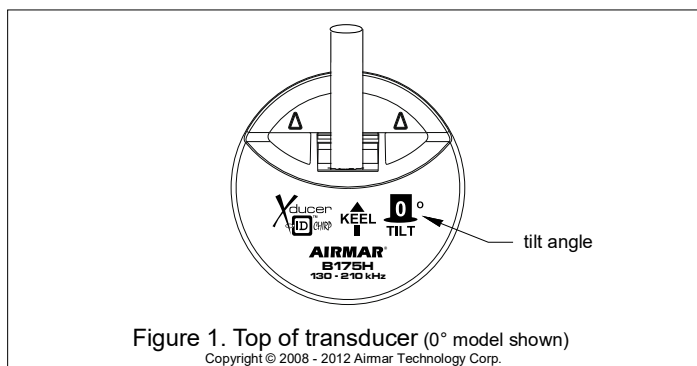
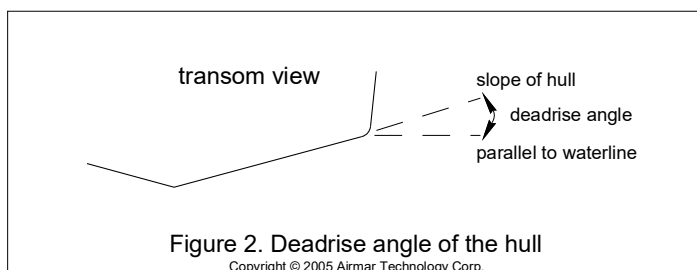

Figure 1. Top of transducer (0° model shown)
Figure 2. Deadrise angle of the hull
Be sure your transducer model matches the deadrise angle of your hull at the selected mounting location. The tilt angle is printed on the top of the transducer (Figure 1). To measure the deadrise angle of your hull at the selected mounting location, use an angle finder or a digital level (Figure 2).
**12° and 20° models**—From inside the hull, point the arrow on the top of the transducer (and the cable exit) toward the KEEL or centerline of the boat (Figure 1). This will align the angle of the element inside the transducer with the deadrise angle of your hull.